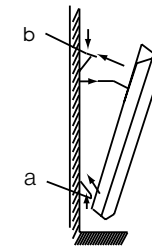

Figure. 5
- fix the device to the bracket as follows (fig. 5).